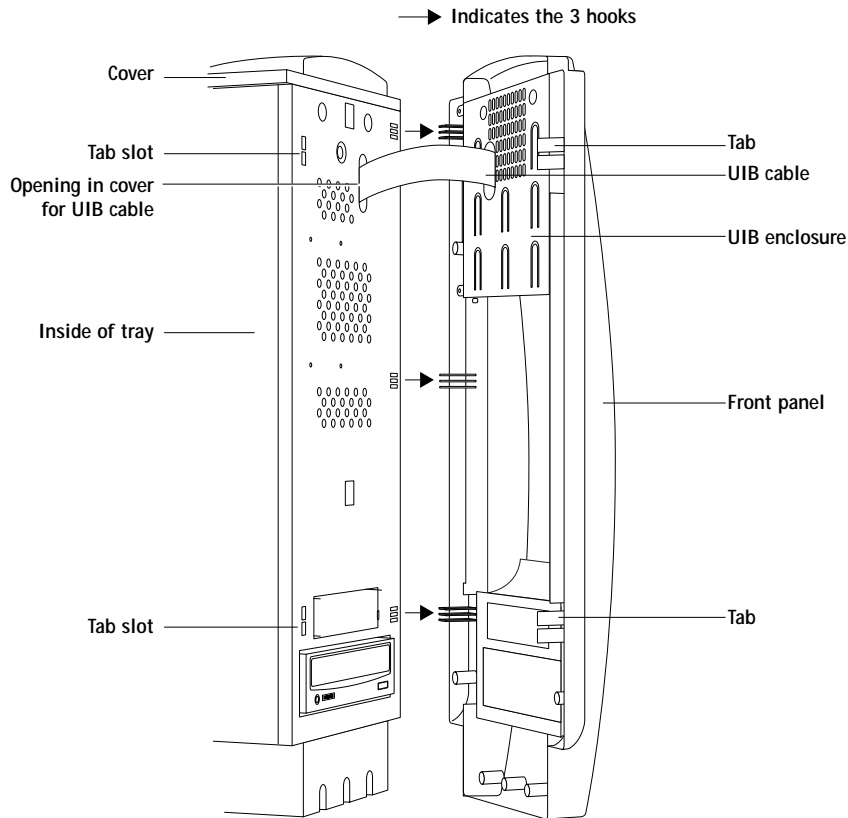

FIGURE 4-4 Removing the front panel
4. Angle the front panel so that the three hooks on the edge of the front panel line up with the cutouts on the front of the cover (see Figure 4-4).